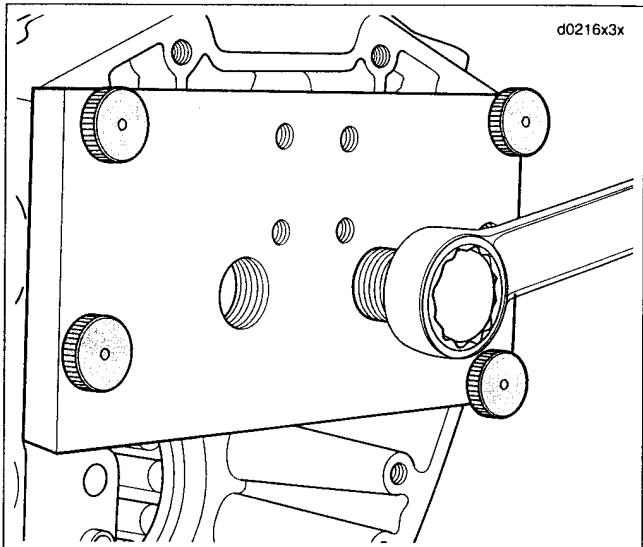

Figure 3-147. Turn Installer Shaft Clockwise to Install Bearing
8. See Figure 3-147. Using 15/16 in. open end wrench, turn hex at end of installer shaft in a clockwise direction until resistance is felt.